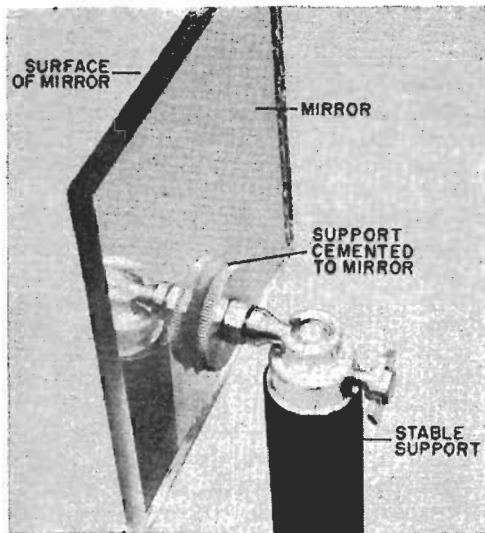

Fig. 3. Tripod support is removed and cemented to the rear surface of the front-surface mirror. Metal nut on tripod screw clamps the mirror tight.
**Receiver.** The circuit of the receiver (Fig. 3) is essentially a phototransistor (Q1) driving a conventional audio system. A foil pattern and component layout are shown in Fig. 4. The phototransistor is mounted on the foil side of the board and protrudes through a hole in the board. Clip the excess lead length from it before soldering it in place and make sure that it is level.
The two reflecting mirrors are made from front-surface optical flat mirrors. The first mirror should be about 2 inches square. The second, larger mirror is about 3 inches square. Using firm, stable supports attach the mirrors with pitch or epoxy so that they are vertical and their centers are in the horizontal beam reference plane (see Fig. 3).